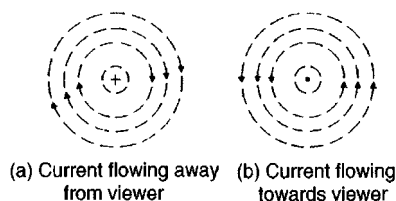
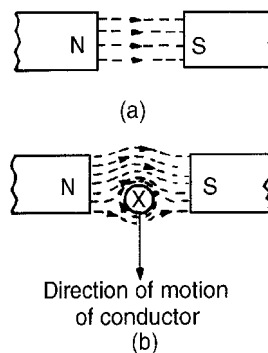

Figure 8.3
Figure 8.13
When dealing with magnetic fields formed by electric current it is usual to portray the effect as shown in Fig. 8.3. The convention adopted is:
- (i) Current flowing away from the viewer, i.e. into the paper, is indicated by \odot . This may be thought of as the feathered end of the shaft of an arrow. See Fig. 8.3(a).
- (ii) Current flowing towards the viewer, i.e. out of the paper, is indicated by \ominus . This may be thought of as the point of an arrow. See Fig. 8.3(b).
For example, with current flowing away from the viewer (Fig. 8.3(a)) a right-hand thread screw driven into the paper has to be rotated clockwise. Hence the direction of the magnetic field is clockwise.
If the current-carrying conductor shown in Fig. 8.3 (a) is placed in the magnetic field shown in Fig. 8.13(a), then the two fields interact and cause a force to be exerted on the conductor as shown in Fig. 8.13(b). The field is strengthened above the conductor and weakened below, thus tending to move the conductor downwards. This is the basic principle of operation of the electric motor (see Section 8.4) and the moving-coil instrument (see Section 8.5).